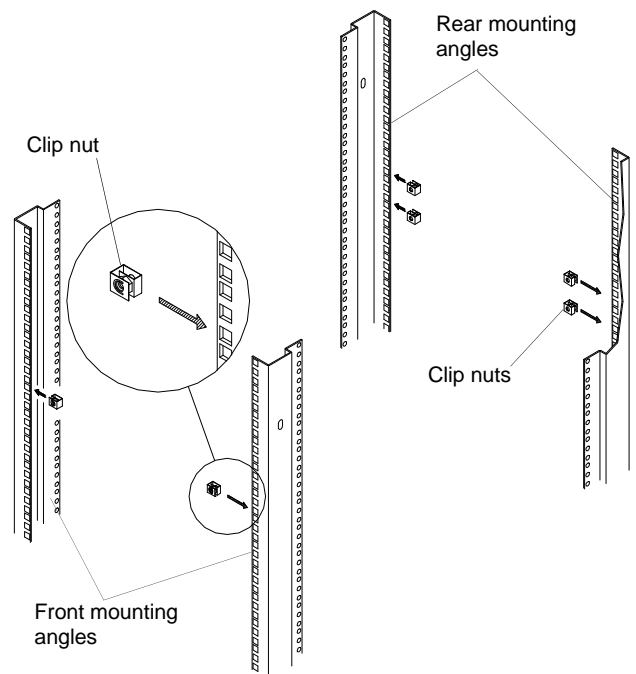

Figure 16
2. Snap a clip nut into a hole at the selected location on each of the **front** mounting angles. See figure 16.